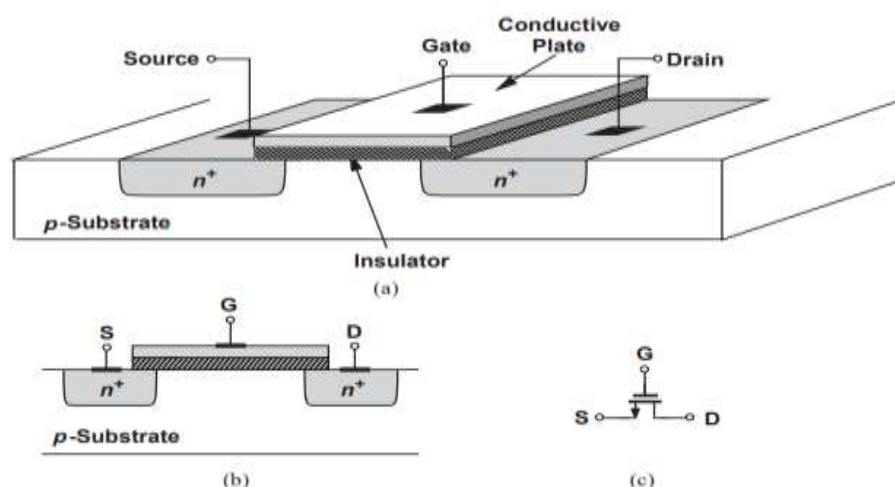

Figure 2.2 (a) Structure of MOSFET, (b) side view, (c) circuit symbol
The ability of silicon fabrication technology to produce extremely thin but uniform dielectric layers lead to the MOSFET structure shown in Fig. 2.2(a) as an amplifying device. The top conductive plate Called the "gate" (G) resides on a thin dielectric (insulator) layer, which itself is deposited on the underlying p-type silicon "substrate." To allow current flow through the silicon material, two contacts are attached to the substrate through two heavily-doped n-type regions because direct connection of metal to the substrate would not produce a good "ohmic" contact.² These two terminals are called "source" (S) and "drain" (D) to indicate that the former can provide charge carriers and the latter can absorb them. Figure 2.2(a) reveals that the device is symmetric with respect to S and D; i.e., depending on the voltages applied to the device, either of these two terminals can drain the charge carriers from the other. As explained in Section 2.2, with n-type source/drain and p-type substrate, this transistor operates with electrons rather than holes and is therefore called an n-type MOS (NMOS) device. We draw the device as shown in Fig. 2.2(b) for
simplicity. Figure 2.2(c) depicts the circuit symbol for an NMOS transistor, wherein the arrow signifies the source terminal.